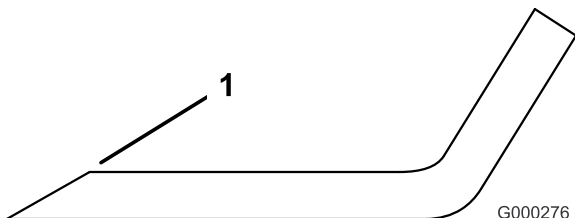

Figure 98
1. Use a file to sharpen the cutting edge at both ends of the blade (Figure 98).